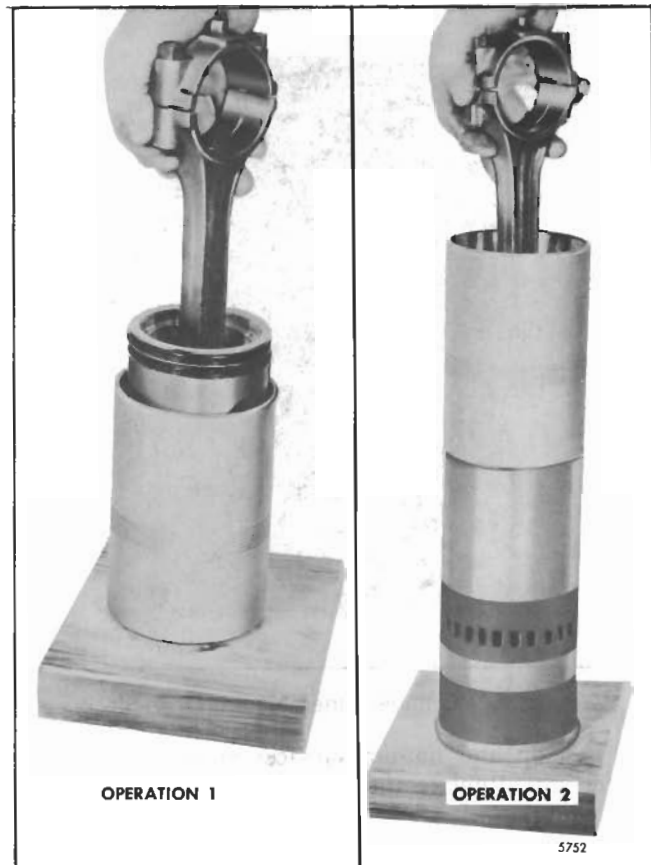

Fig. 8 - Installing Piston and Connecting Rod Assembly in Ring Compressor and Cylinder Liner
4. Start the top of the piston straight into the ring compressor. Then push the piston down until it contacts the wood block ("Operation 1" of Fig. 8).
on the rod and cap are aligned with the matchmark on the liner ("Operation 2" of Fig. 8).